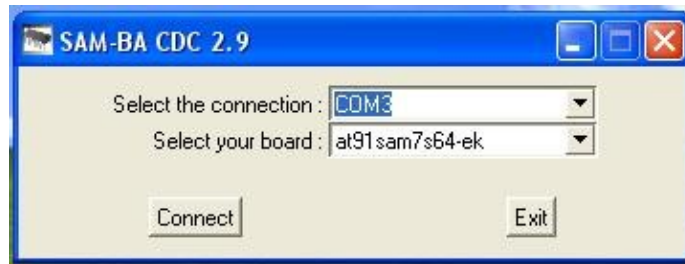
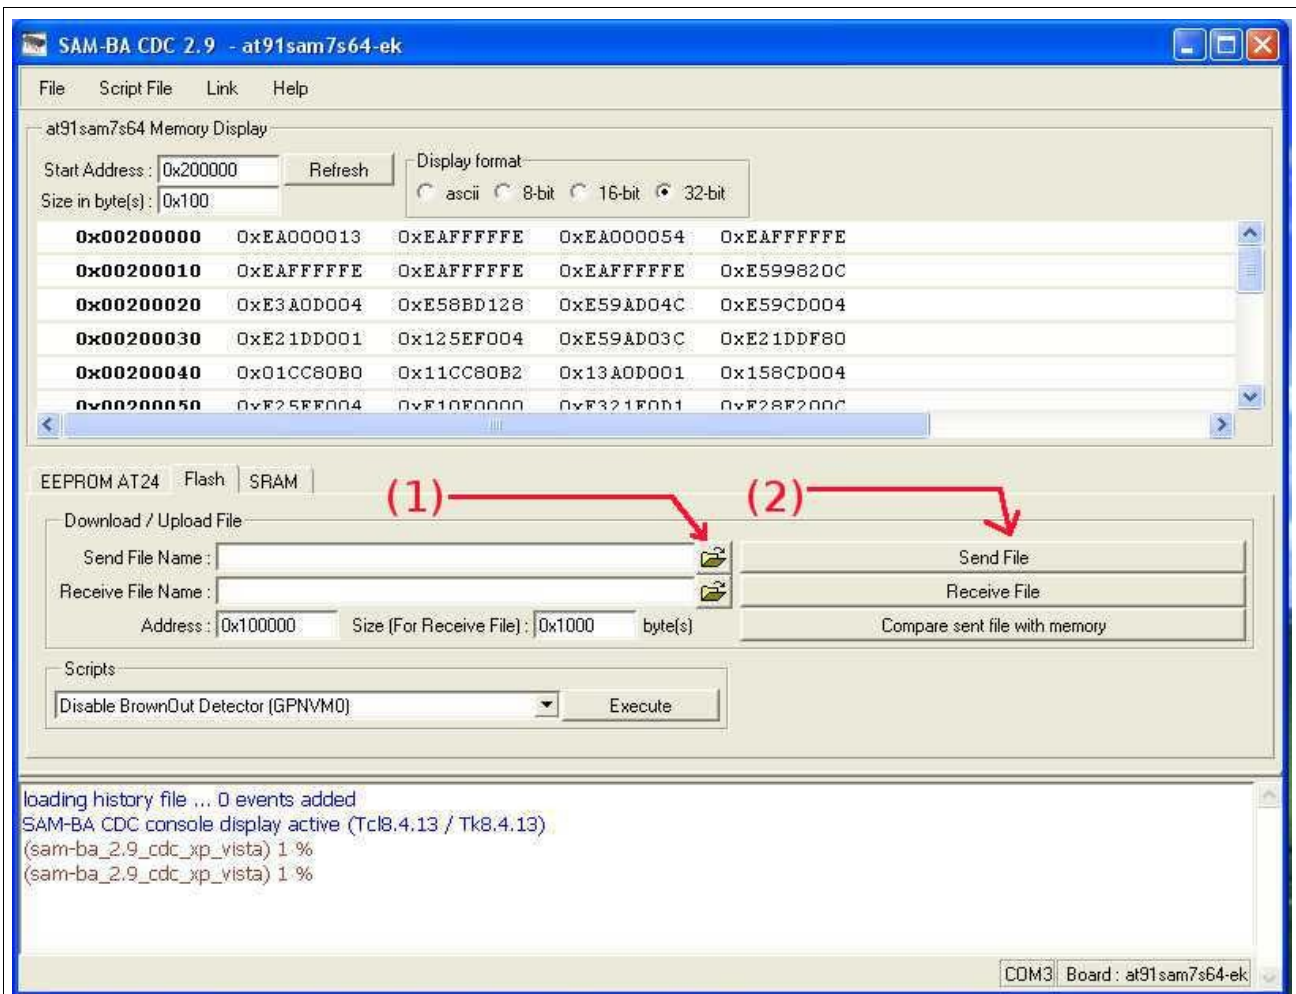

Figure 21:
Figure 22: the boot application.
10. Launch the *sam-ba\_cdc\_2.9.xp\_vista.exe* application by a double-click on its icon shown in figure 20 and the window shown in figure 21 appears.
- 11. Now you must select the board “*at91sam7s64-ek*” in the “*Select your board:*” menu, as shown in figure 21. Failing to do so will cause the *Telemetry Box* to stop working, with no warning, seemingly dead after the programming procedure. Never mind – you will just have to redo the whole process with the proper board selection. Once this is done, click on the “*Connect*” button to launch the boot application. This one appears as shown in figure 22.
Now click on the button (1) shown in figure 22, and select the file to download in the *Telemetry Box* device. Then click on the button (2) shown in figure 22 to launch the downloading. During the downloading phase the application generates two questions. Please answer “yes” to the first question and “no” to the second one. At the end of the downloading, please click on “*Quit*” option in the “*File*” menu to close the boot application. Now the *Telemetry Box* is updated and it's possible to disconnect it from the PC.